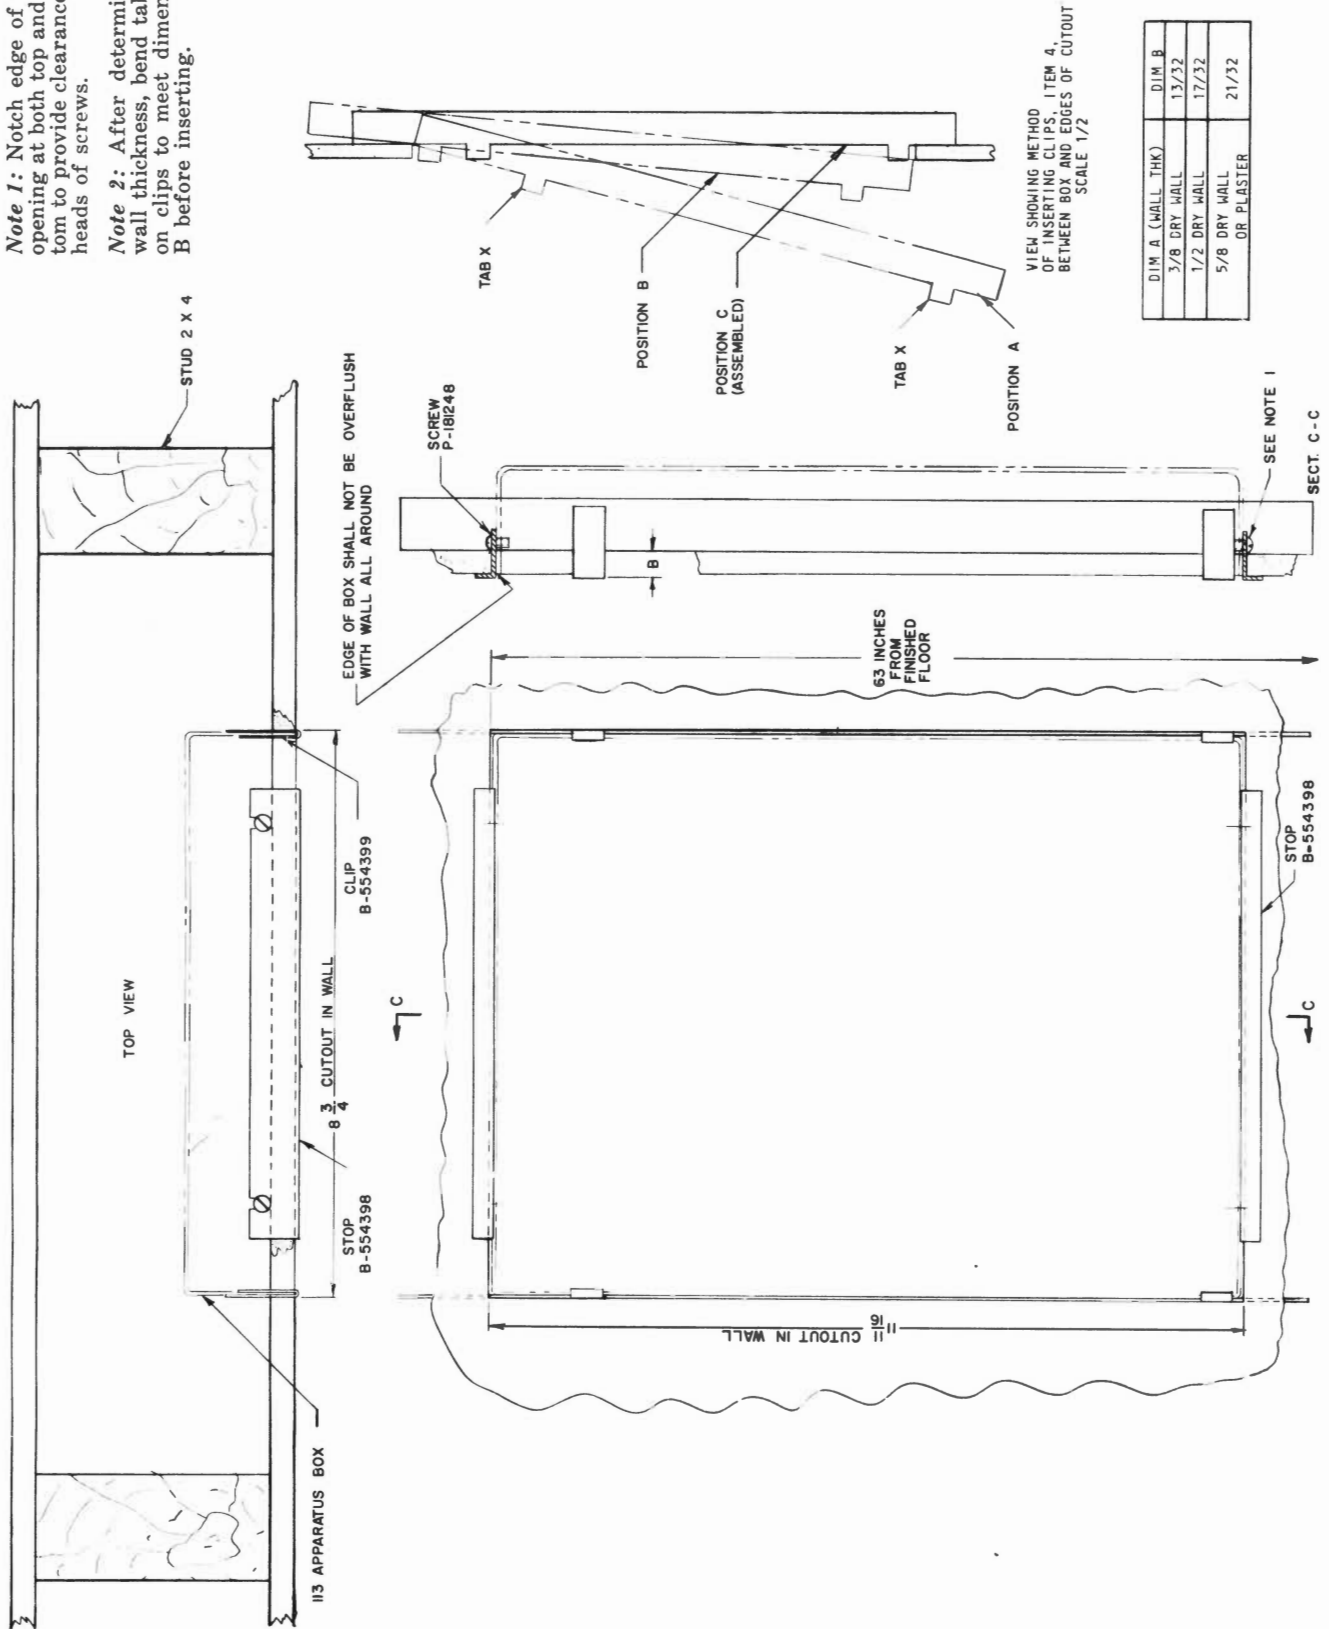

Fig. 10—Installation Details for Existing Frame Wall
**3.03** The apparatus box may be installed in existing frame construction as shown in Fig. 10. The B-554399 clip, B-554398 stop, and P-181248 screws are not furnished with the apparatus boxes. They must be ordered separately as required.